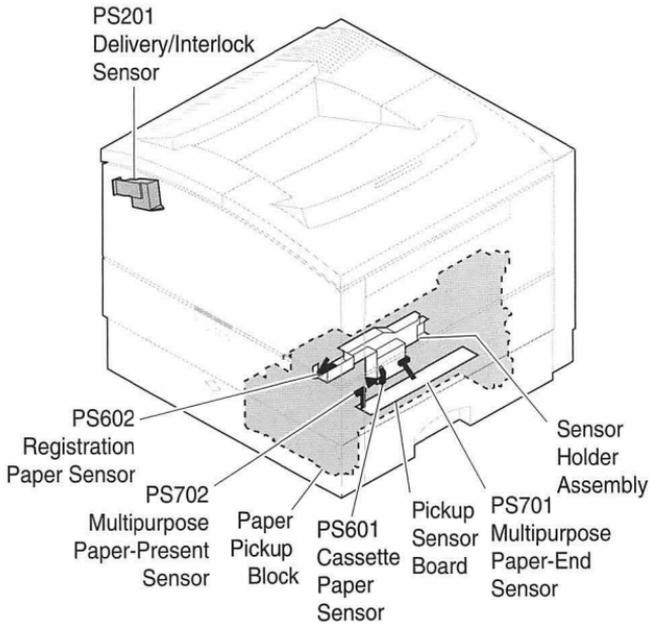

Figure 24. Paper Sensors
Paper sensors consist of an actuator, a U-shaped photo interrupter, and circuitry. Sensors are tripped as the actuator swings against movement of paper and blocks the gap of the "U". An actuator can be passive (governed by gravity) or spring-loaded. There are six paper sensors, and one dual-action sensor. Five of these sensors are shown in Figure 24:
- PS851 Sheet Feeder Paper-Present Sensor (located in the optional sheet feeder not shown in Figure 24)
- PS931 Envelope Paper-Present Sensor (located in the optional envelope feeder not shown in Figure 24)